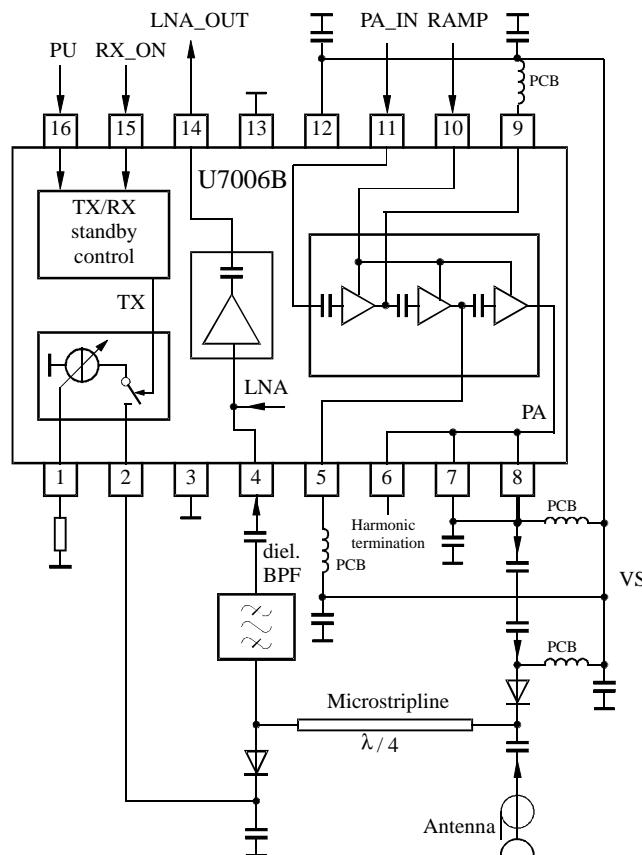

Figure 13. Typical schematic
2) With external matching network (see figure 13)